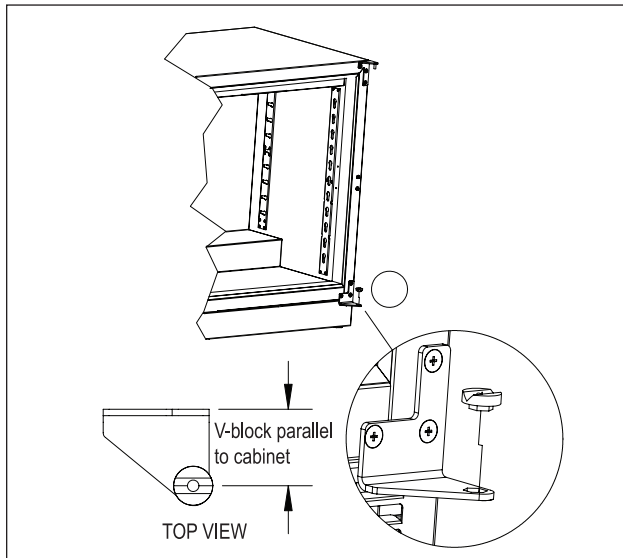

Figure 10: Installing V-Block
- Place lower V-block into lower cabinet hinge with notch parallel to cabinet (Figure 10).